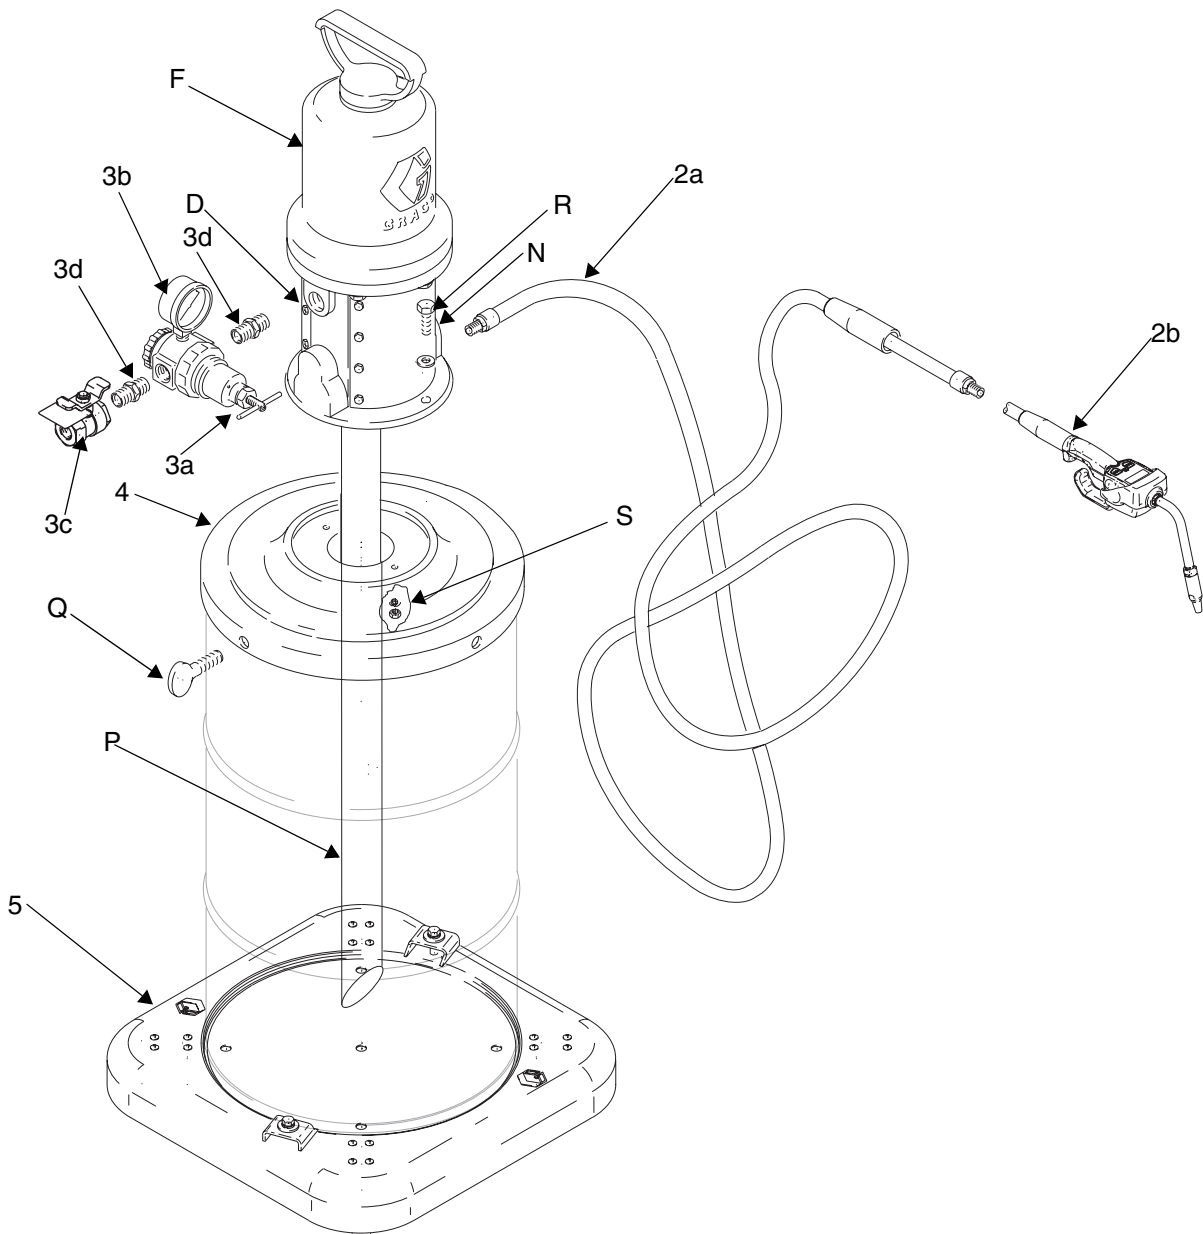

FIG. 4
1. Assemble the base (5) as shown in FIG. 4. Place an opened 16-gallon (60 liter) drum on the base and secure it with the hold-down clamps. Tighten the hold-down clamp bolts
2. For 246903, cut the extension tube (P) at a 45° angle to a length appropriate for the size of the drum. When installed, the bottom of the angle should be about 1" (25 mm) from the bottom of the drum. The down tube for 225728 is sized for the container.
3. Set the cover (4) on the drum and secure the thumbscrews (Q). Install the pump (F) on the cover (4) with the screws (R), washers and nuts (S) provided
4. Connect the hose (2a) to the pump fluid outlet (N).